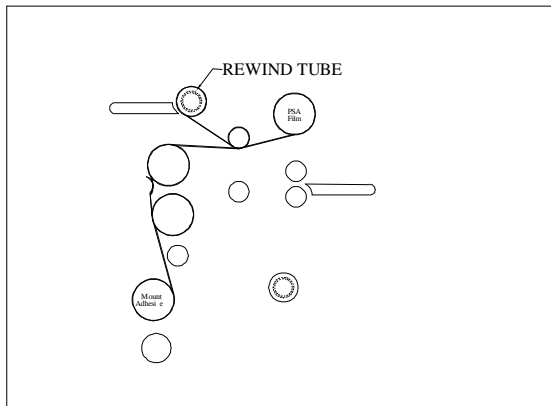

Figure 23
6. Pull the mount adhesive up towards the film draped over the upper heat roller (Fig. 23).